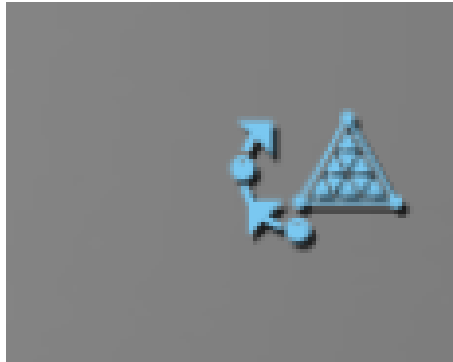
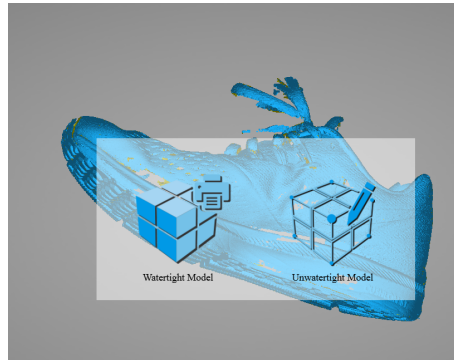

Figure 26: After the scan has been completed, select the mesh key.
Figure 27: Select "Unwatertight model"
20. Select the mesh icon from the left tool bar (Figure 26). Then select "Unwatertight model" (Figure 27). Select Apply when prompted.